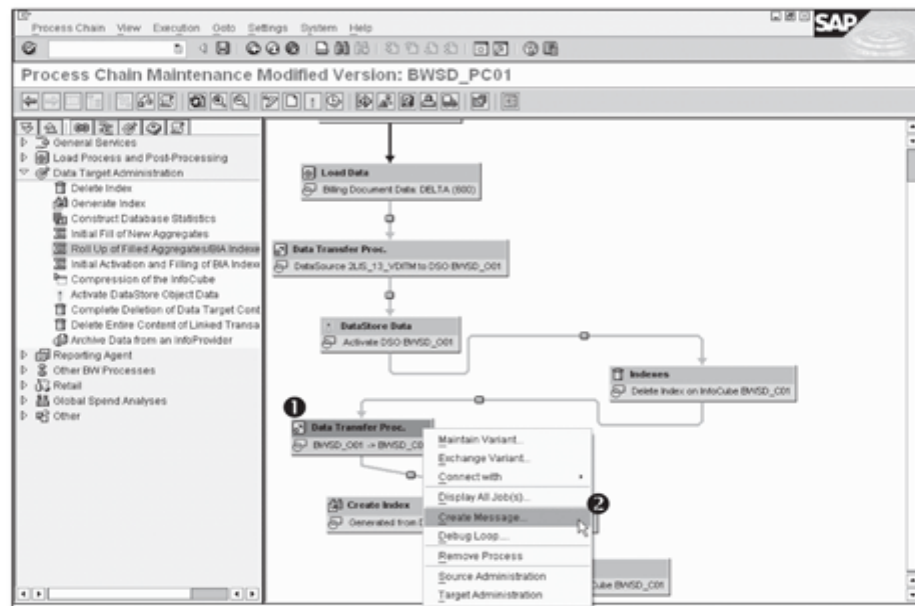

Figure 14.35 Setting Alert Message in Process Chains
We must also set up emails that alert solution administrator on failure of a data load between the DSO and InfoCube. To do this, select the DTP item in the process chain that is responsible for loading the data from DSO BWSD_O01 to InfoCube BWSD_C01 (❶ of Figure 14.35). Open the context menu, and select Create Message (❷).